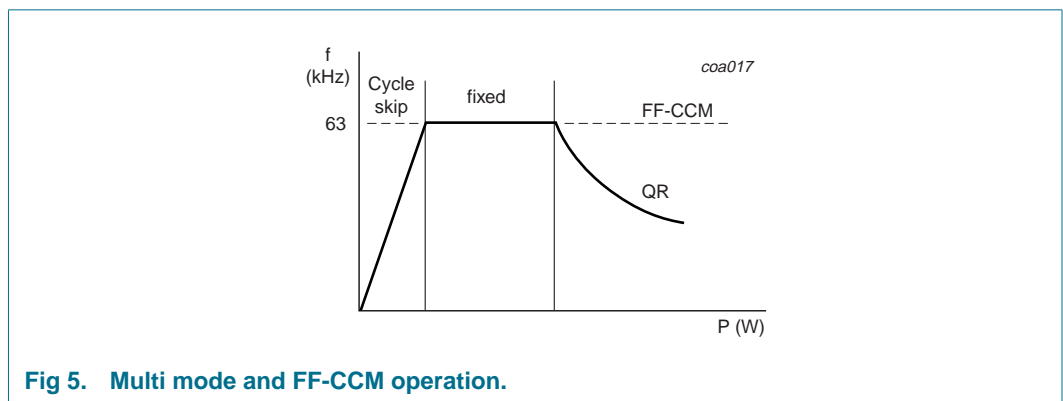

Fig 5. Multi mode and FF-CCM operation.
The TEA1532(A) can operate in multi modes; see Figure 5.